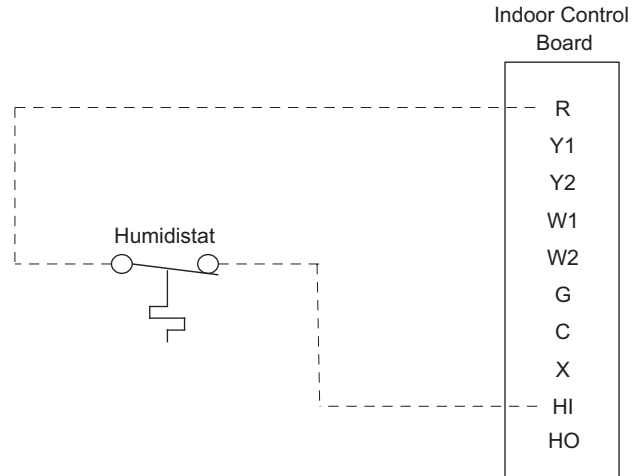

Fig. 30 — Humidistat Connections to IDCB
2. Connect one of the leads from the 2-conductor cable to the HI terminal on the IDCB (Indoor Control Board) on the outside of the control Box. Connect the other lead to the R terminal on the IDCB on the outside of the control box as shown in Fig. 30.